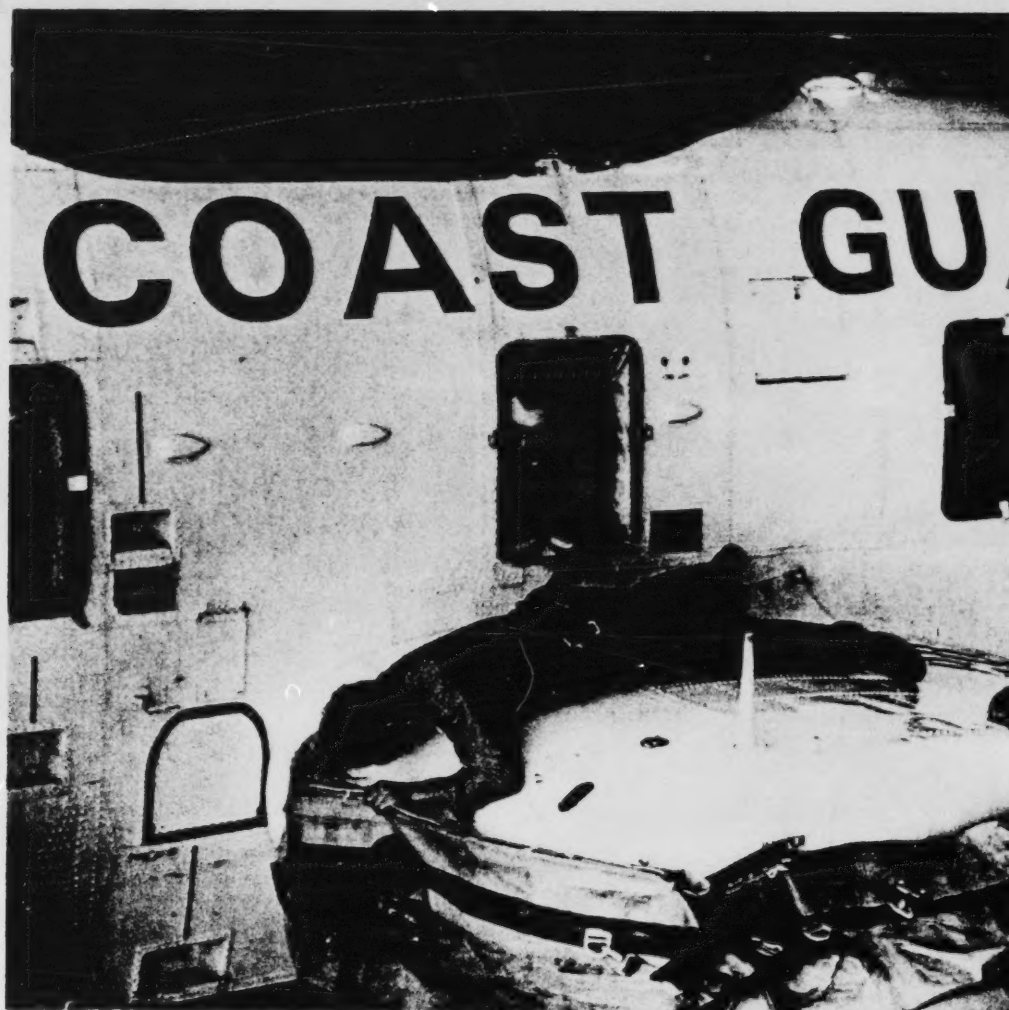

Figure 14. - Auxiliary flotation collar installation.
2. Remove and stow sponson emergency exit window. One crewmember should exit through window and onto sponson, assuring crewmember's safety harness is properly worn and attached as close as possible to emergency exit. (See figure 14.)